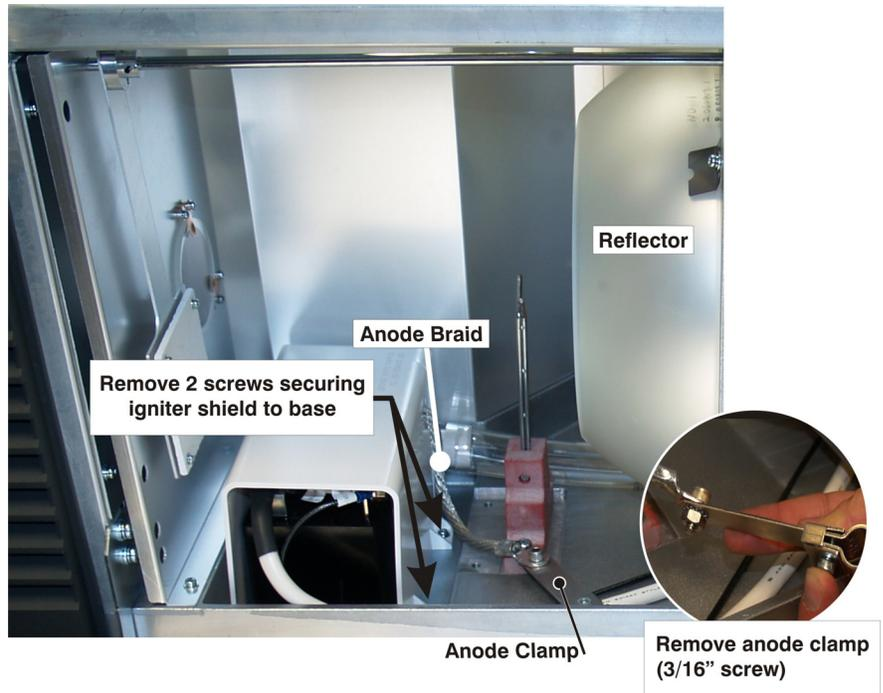

FIGURE 1-29 REMOVE IGNITER SHIELD AND DISCONNECT ANODE CLAMP
5. Remove 2, #2 Phillips screws securing the igniter shield to the base of the projector. (Figure 1-29) Pull the shield up and move it off to the side closest to the anode yoke to allow access to the igniter.